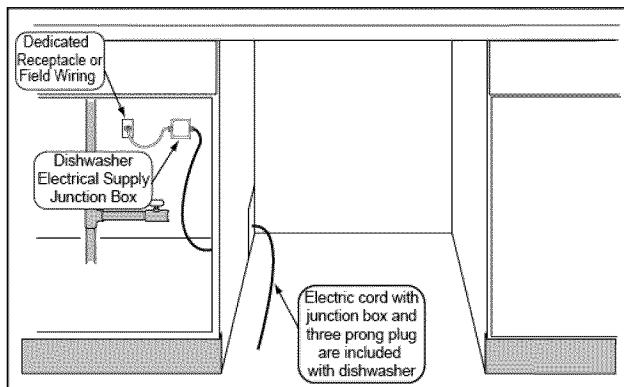

Figure 6
The dishwasher electrical supply junction box (P) and dedicated receptacle must be mounted in an accessible cabinet adjacent to the dishwasher (do not mount the junction box or receptacle behind the dishwasher). You will need a 43/4" x 23/8" (120 x 60 mm) opening through the cabinet in order to pass the junction box through (see **Figure 6**). If the opening is made through wood, sand it smooth. If the opening is made through metal, use the included protective grommet (I) or other approved method to protect wiring from damage. Use the four screws included (or appropriate fastener) in the parts bag to securely mount the junction box so that it can be easily accessed (see **Figure 6**). The electrical supply can be connected in two ways: